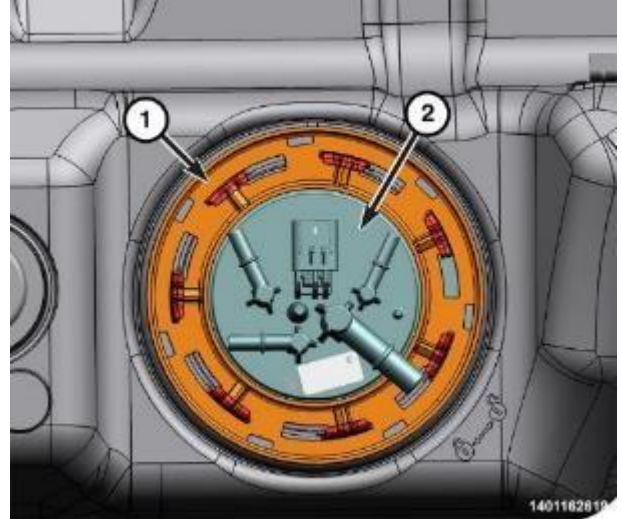

Figure 81 – Tank Connections
- 146. Position the 9340 SAE Fuel Pump Lock Ring Wrench in the notches on the outside edge of the lock ring (1) (Figure 81).
- 148. Rotate the breaker bar counterclockwise and remove the lock ring (1) (Figure 81).
- 149. Remove the fuel pump module (2) from the fuel tank and discard (Figure 81).